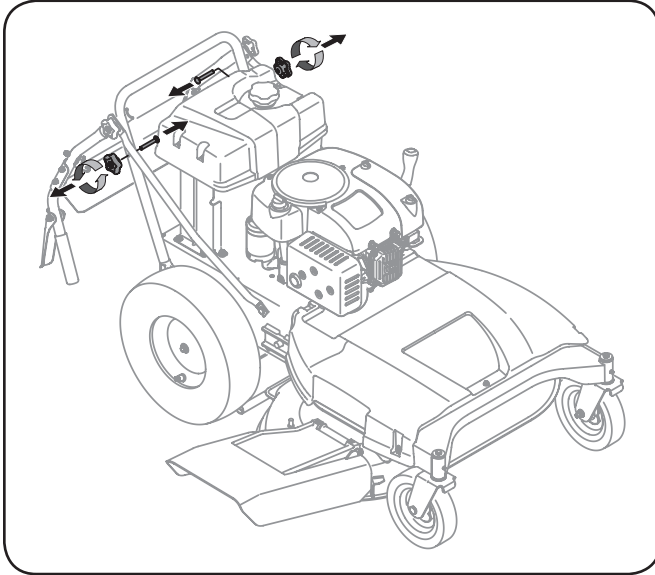

Figure 3-3
1. Remove the star knobs and carriage screws from the lower handle. See Figure 3-3.